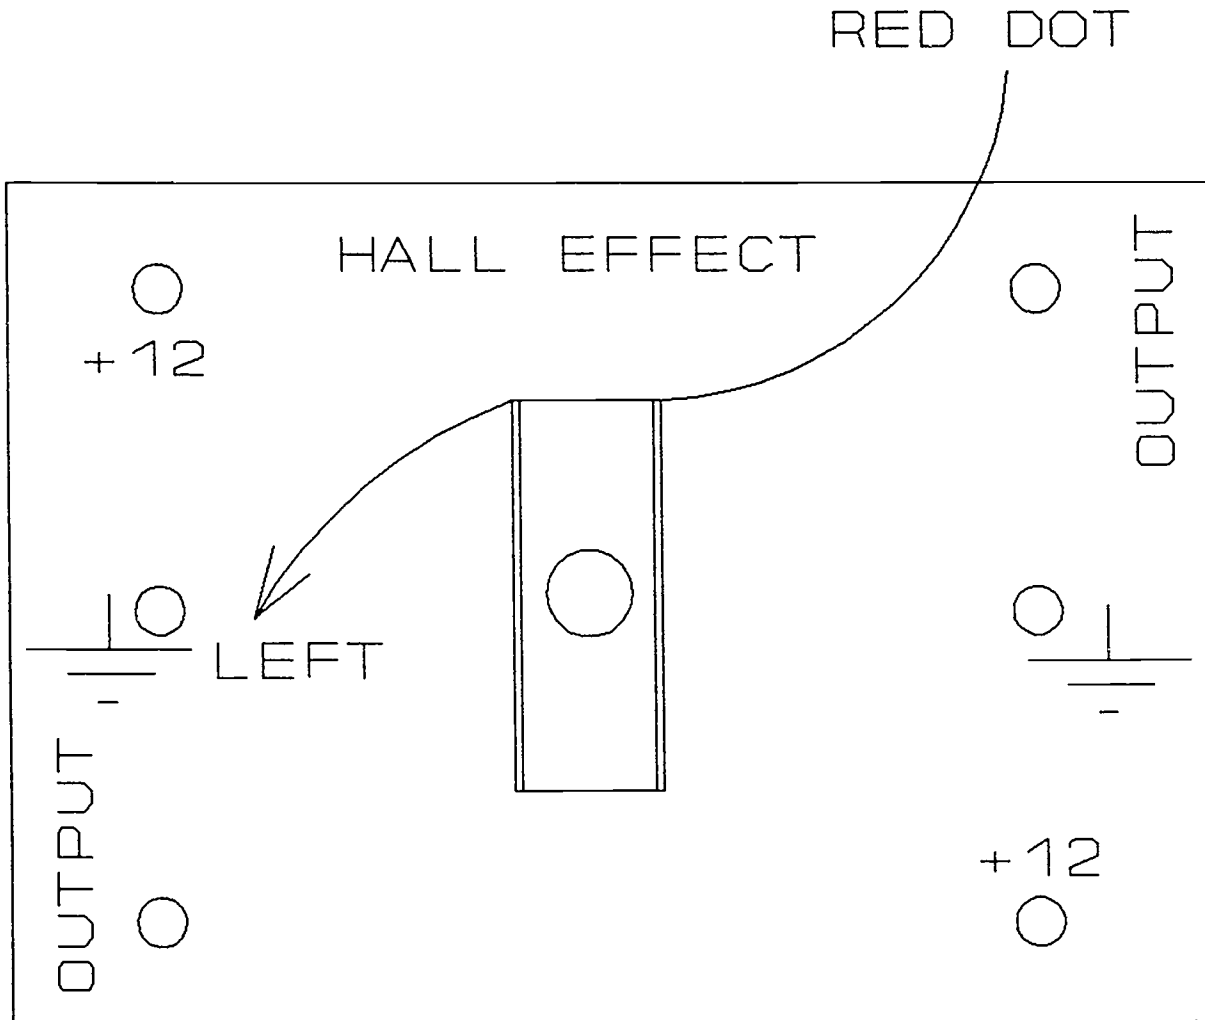

Figure G-2-2
- A. Connect a neon lamp in the circuit as shown in Figure G-2-2 ("RC Neon Lamp Circuit Wiring Diagram").